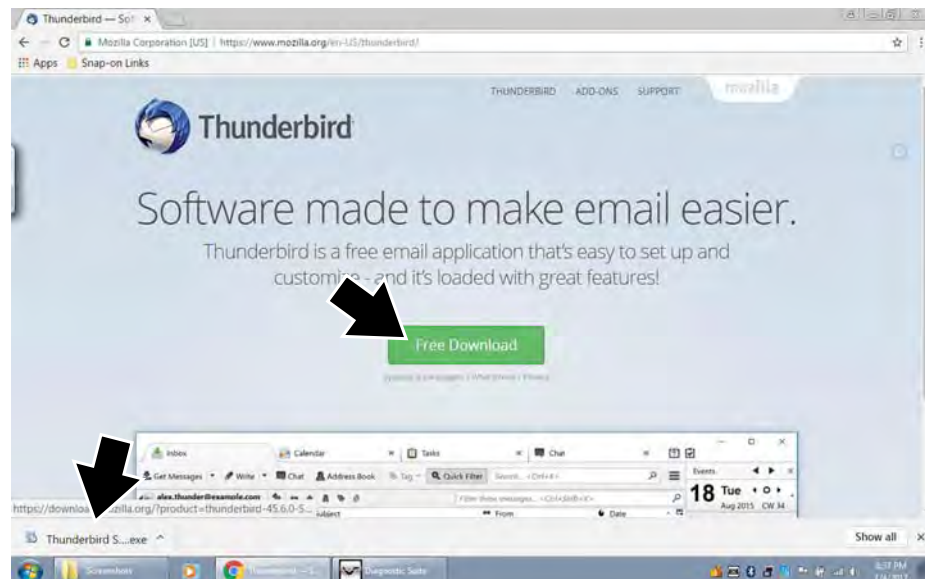

Figure 11-9
1. Download an email client (e.g. Mozilla Thunderbird) (Figure 11-9).